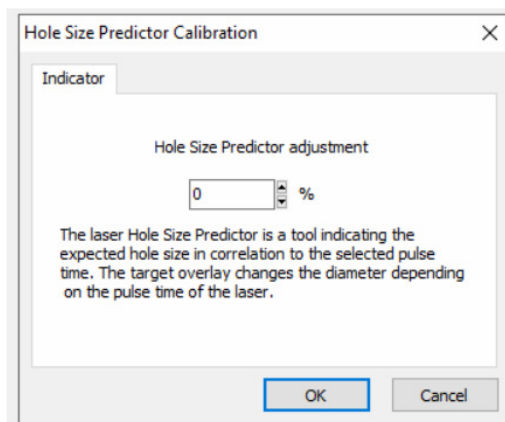

Fig. 14: Calibration of the Hole Size Predictor at the Video page
The diameter of the Hole Size Predictor can be calibrated in a range between -70% and +200% in steps of 5% relative to the current value (Fig. 14).
12. Select Video - Overlay – Calibrate Hole Size Predictor from the menu and adjust the indicated hole size by clicking the arrows on the right side to overlap with the actual diameter of the drilled hole (Fig. 14).